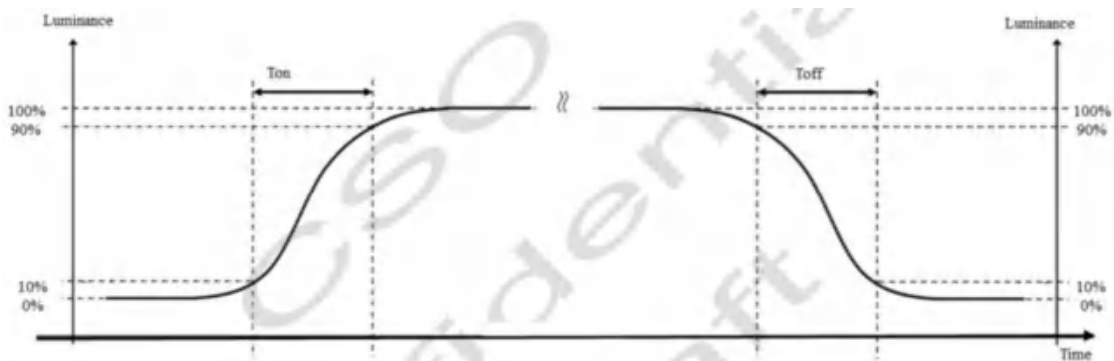

Fig. 7.4 The definition of Ton, Toff
(3) The electro-optical response time measurements shall be made as Figure 7.4 by switching the "data" input signal ON and OFF. The times needed for the luminance to change from 10% to 90% is Ton, and 90% to 10% is Toff.